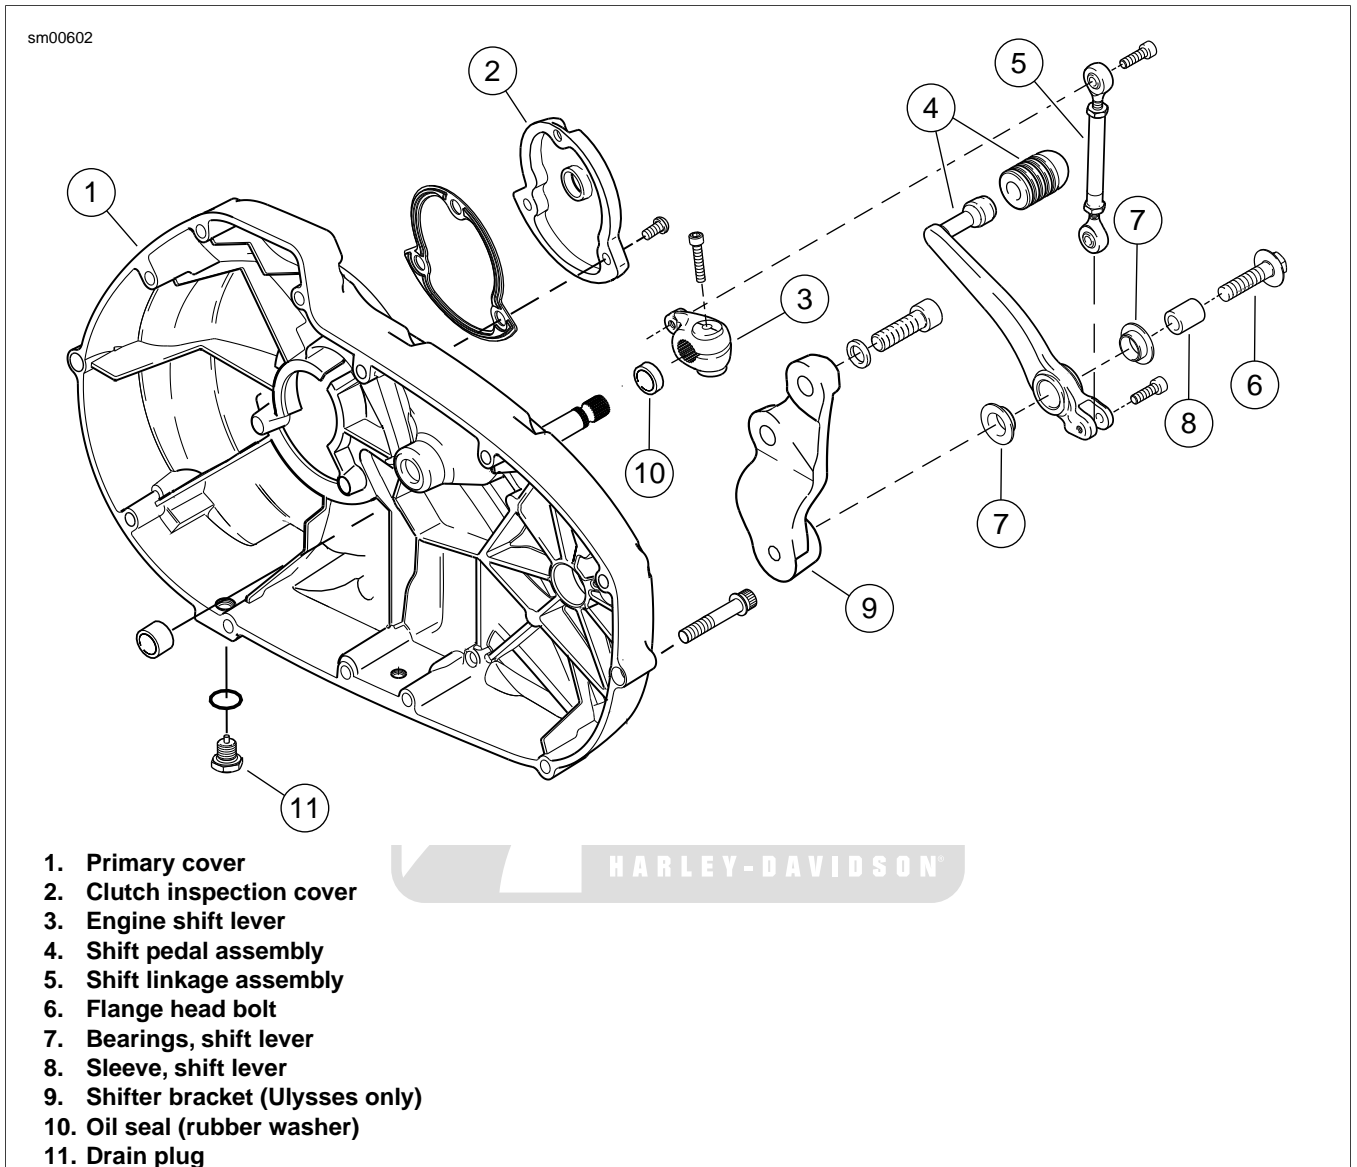
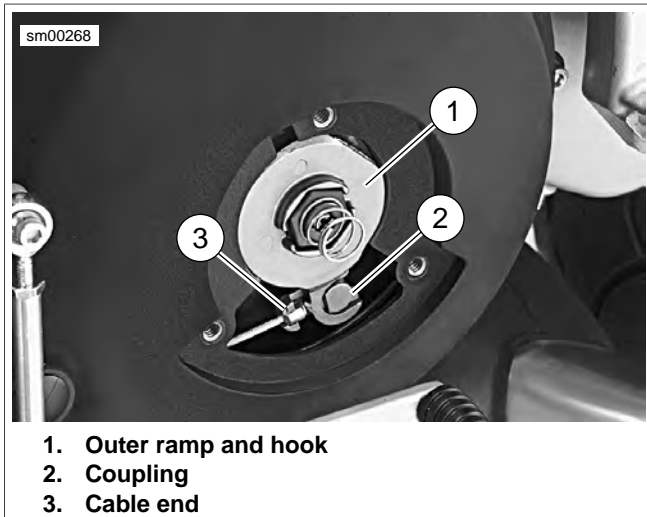
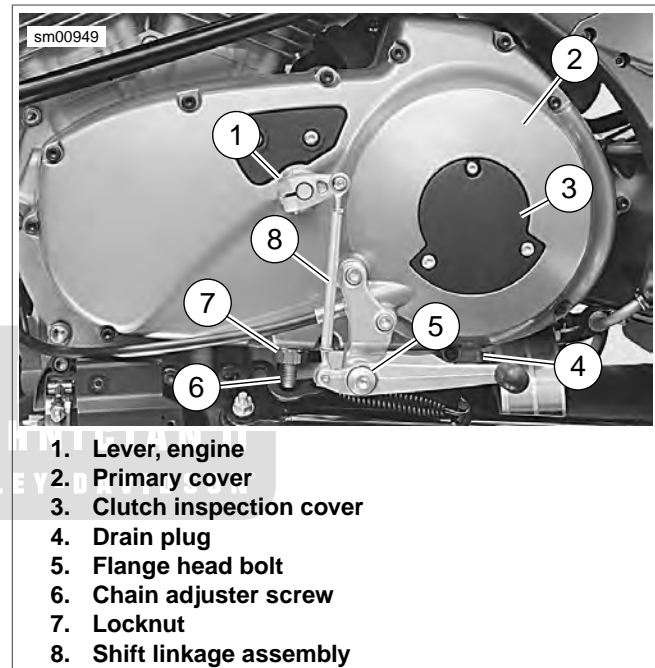

Figure 2-134. Shifter Linkage
Figure 2-135. Clutch Release Mechanism (Typical)
Figure 2-137. Installing Shift Linkage (Typical)
11. See Figure 2-134. Remove clutch inspection cover (2).
- a. Remove flange bolt (6) from primary cover.
- b. Remove engine shift lever assembly (3). Do not scratch primary cover.
13. See Figure 2-135. Remove the outer ramp and hook (1) from the cable end (3) and coupling (2). Remove cable end from slot in coupling. See 5.4 CLUTCH RELEASE MECHANISM.
3. See Figure 2-135. Install cable end into slot in coupling. Install the outer ramp and hook (1) onto the cable end (3) and coupling (2) and place assembly back into the clutch inspection area in the primary cover. See 5.4 CLUTCH RELEASE MECHANISM.
4. See Figure 2-134. Install oil seal (rubber washer) and engine shift lever assembly (10, 3).
5. See Figure 2-134. Install (7) bearings and (8) sleeve into the shift lever.
6. After applying LOCTITE 271 (red), install flange bolt (6) and shift pedal (4) to primary cover, and tighten to 22-24 ft-lbs (30-32.5 Nm).
8. See Figure 2-137. If the shift linkage assembly (8) was removed for any reason, apply LOCTITE 271 to fasteners and tighten to 36-60 **in-lbs** (4-7 Nm). Adjust to rider comfort.
14. See Figure 2-134. Install clutch inspection cover (2) with three TORX screws with washers. Tighten screws in a crosswise pattern to 84-108 **in-lbs** (9.5-12 Nm).